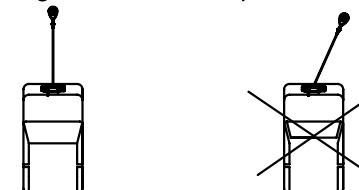

Figure7
15. Avoid pulling things from the limitary angles. Or else the wire rope will cause damage to one end of the drum. (See figure 7) this will cause the tangling of wire rope on the winch and bring damage to the wire rope and the winch.